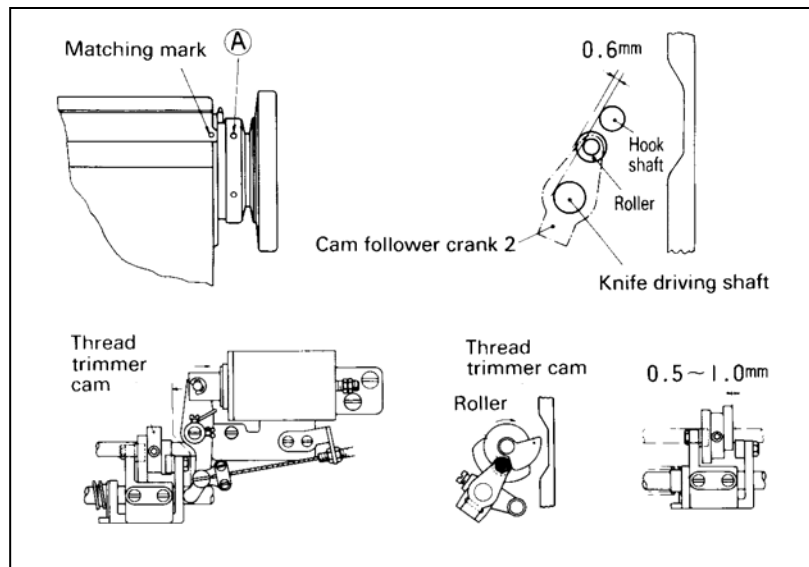

Fig.34
- (1) Operation stroke of the thread trimmer solenoid:
- (2) Installing the unit:
- 5) Installing the thread trimming cam (Fig.34):